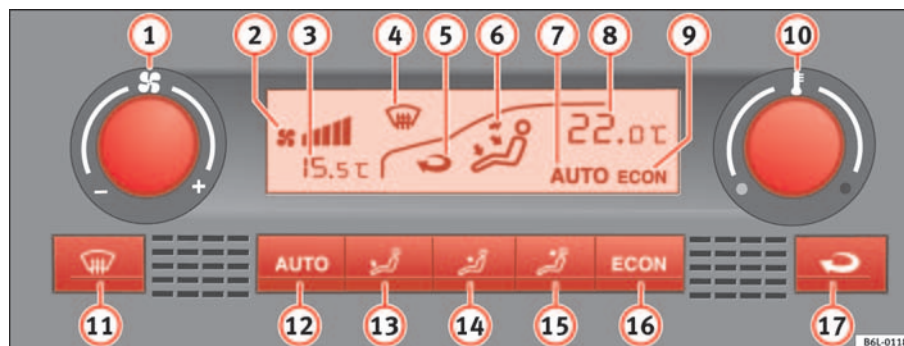

Fig. 90 On the instrument panel: Climatronic controls
- Turn the temperature selector ⇒ fig. 90 ⑩ to set the desired temperature.
- ① Blower speed control and ON / OFF system.
- ② Blower level indicator
- ③ Outside temperature display
- ④ Defrost windscreen display
- ⑤ Air recirculation display:
- ⑥ Display for air flow direction
- ⑦ Display **AUTO** (automatic operation)
- ⑧ Interior temperature selected display
- ⑨ Display **ECON** (air conditioning off)
- Press the button . The display is visible ⇒ page 119, fig. 90 .
- Press one of the buttons ⇒ page 119, fig. 90  to , or turn the blower control . The display is switched off .
- Press the button  to switch air recirculation mode on or off. This is ON if the symbol  ⇒ page 119, fig. 90  ⑤ is displayed on the screen.